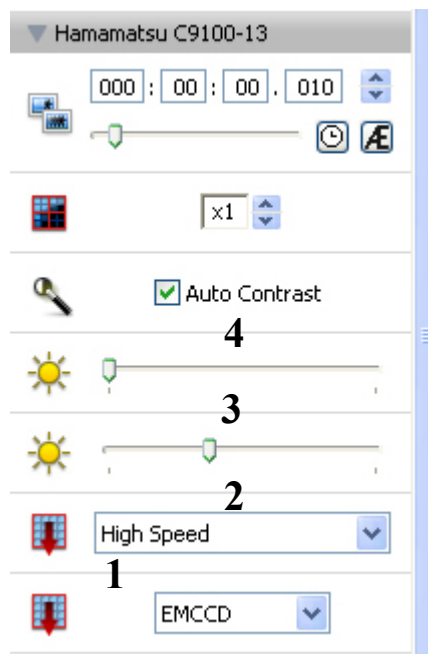

Figure 2.
Under Hamamatsu C9100-13 (Fig. 2) the camera settings can be changed from the default EMCCD to Conventional mode (1). High Speed, Moderate Speed/Quality, High Quality (2) settings can be chosen. In EMCCD mode, use Sensitivity (3) to turn the multiplier up and increase your signal, do not use Gain (4) as this increases the background. In Conventional mode, Sensitivity does not work, use Gain to increase signal.